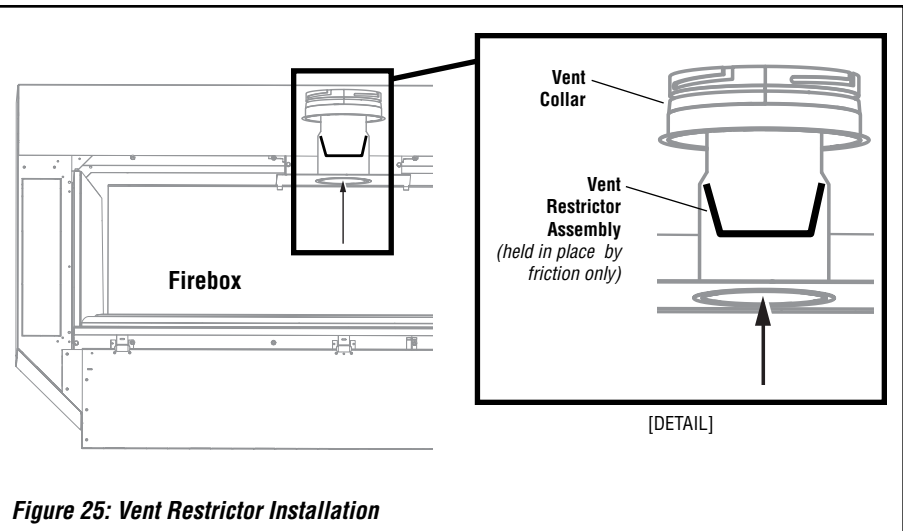

Figure 25: Vent Restrictor Installation
3. Install the vent restrictor assembly from inside the firebox. With the **flaps** on the **vent restrictor base** facing UP, carefully bend the flaps inward just enough to slide the assembly up into the **vent collar**, as shown in **Figure 25**.